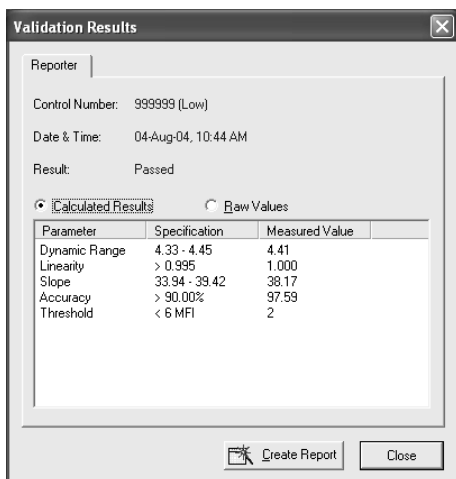

Fig. 9. Reporter validation results.
10. When the procedure is completed, values will be displayed in a dialog box as shown below: (Figure 9)